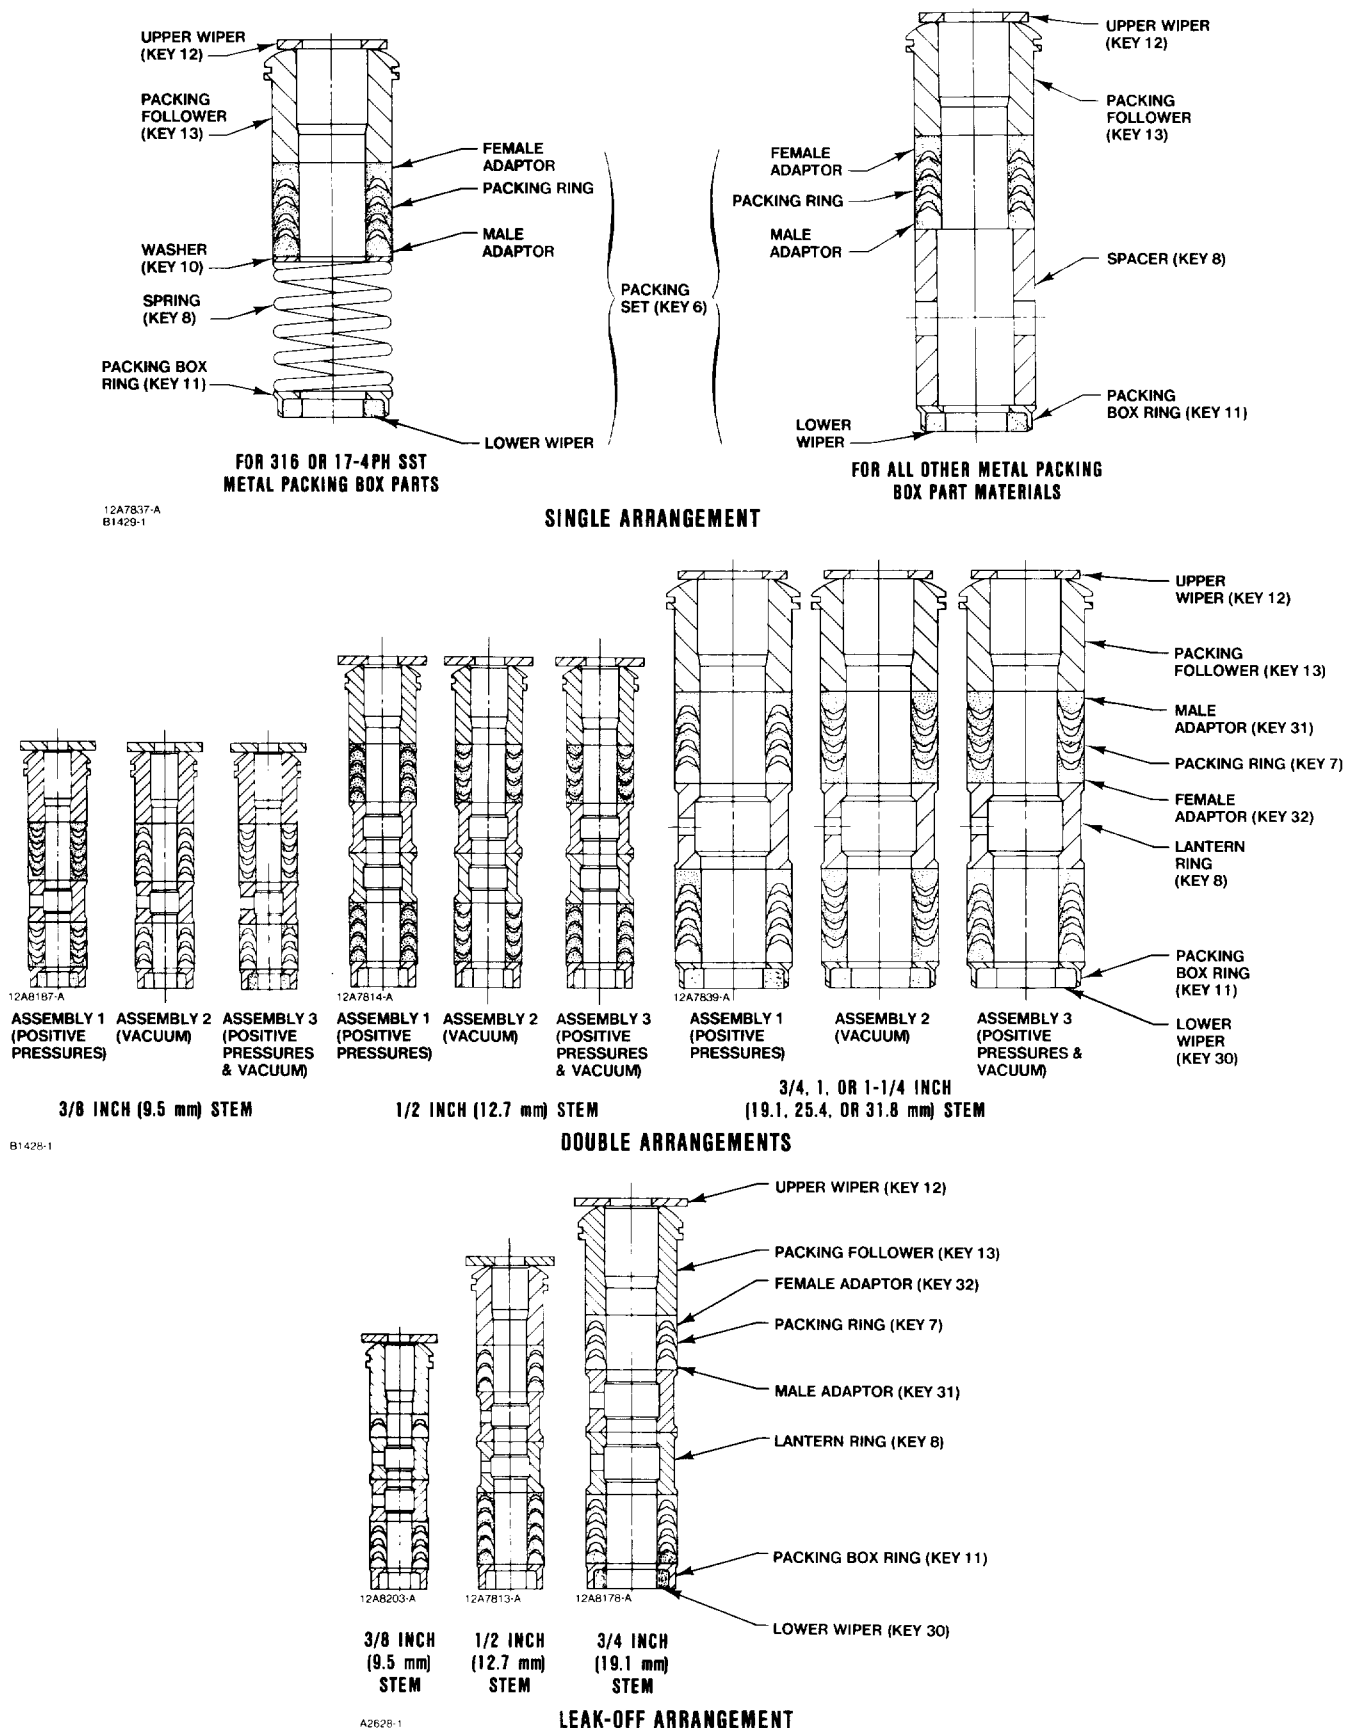

Figure 3. TFE V-Ring Packing Arrangements
This procedure covers only TFE V-ring and TFE/asbestos packing. Refer to a separate manual for graphite laminate/filament packing if used. Key numbers refer to figure 3 for
For spring-loaded single TFE V-ring packing, the spring (key 8, figure 3) maintains a sealing force on the packing. If leakage is noted around the packing follower (key 13, figure 3), check to be sure the shoulder on the packing follower is touching the bonnet. If the shoulder is not touching the bonnet, tighten the packing flange nuts (key 5, figure 5), until the shoulder is against the bonnet. If leakage cannot be stopped in this manner, proceed to the replacing packing procedure.
When using packing with a lantern ring (key 8, figure 3 or 4), it is possible to add packing rings above the lantern ring as a temporary measure without removing the actuator from the valve body.
11. Install new packing and the metal packing box parts according to the appropriate arrangement in figure 3, 4, or 5. Place a smooth-edged pipe over the valve stem and gently tap each soft packing part into the packing box, being sure that air is not trapped between adjacent soft parts.